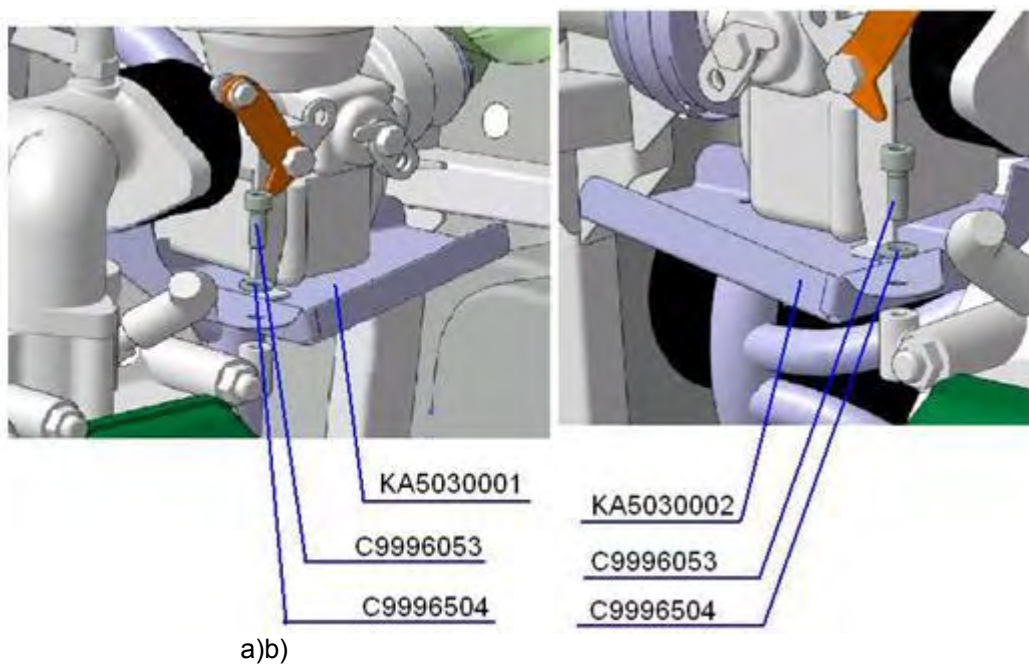

Fig. 10
- Unscrew the bolt C9996053 (Bolt DIN 912 M6x10-8.8) by a hex-nut wrench 5 and remove the shield KA5030001 (Protection plate, left Fig 10 a).
- Unscrew the bolt C9996053 (Bolt DIN 912 M6x10-8.8) by a hex-nut wrench 5 and remove the shield KA5030002 (Protection plate, right Fig 10 b).